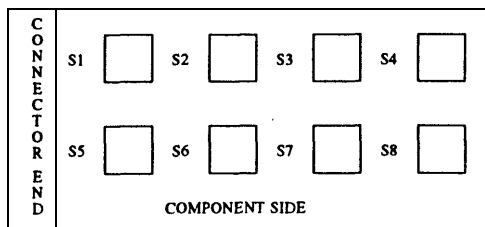

Figure 28-9. SN228B Switch Locations
Figure 28-9 shows eight, two-rocker switch packages S1-S8 positioned on the circuit pack. Each switch package serves one of the eight port circuits provided on the pack.
Use table 28-10 to select the required option for a port circuit. First, identify the switch package (S1-S8) associated with the port circuit (locate the package as shown on figure 28-9). Next, use table 28-10 to set the single switch section for that port. (U) indicates the switch section is fully depressed at the upper end and (D) indicates the switch section is fully depressed at the lower end.